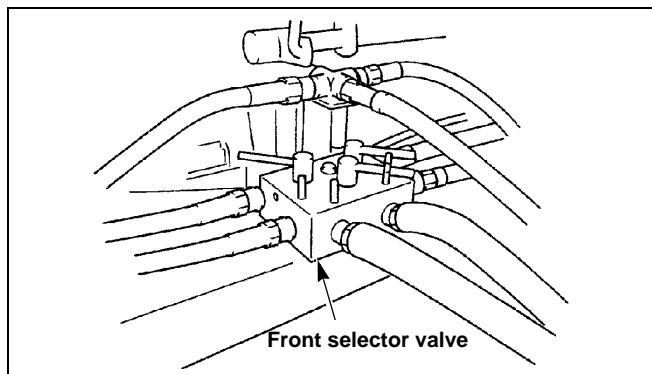
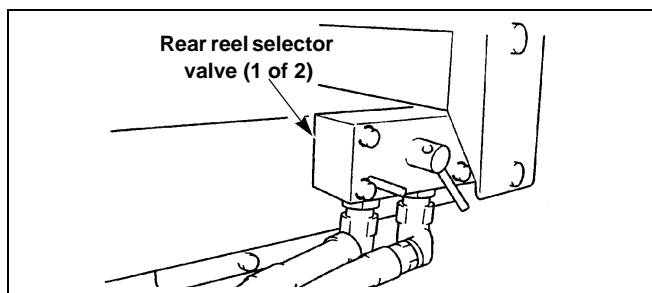

Figure 4-57
Figure 4-58
1. Position the tractor on a flat, level surface. Raise the cutting units. Fully engage the park brake and turn off the engine. Remove the keys from the tractor Figure 4-58
5. Switch each reel selector valve (Figure 4-57 & Figure 4-58) to rotate for each cutting unit to be backlapped.